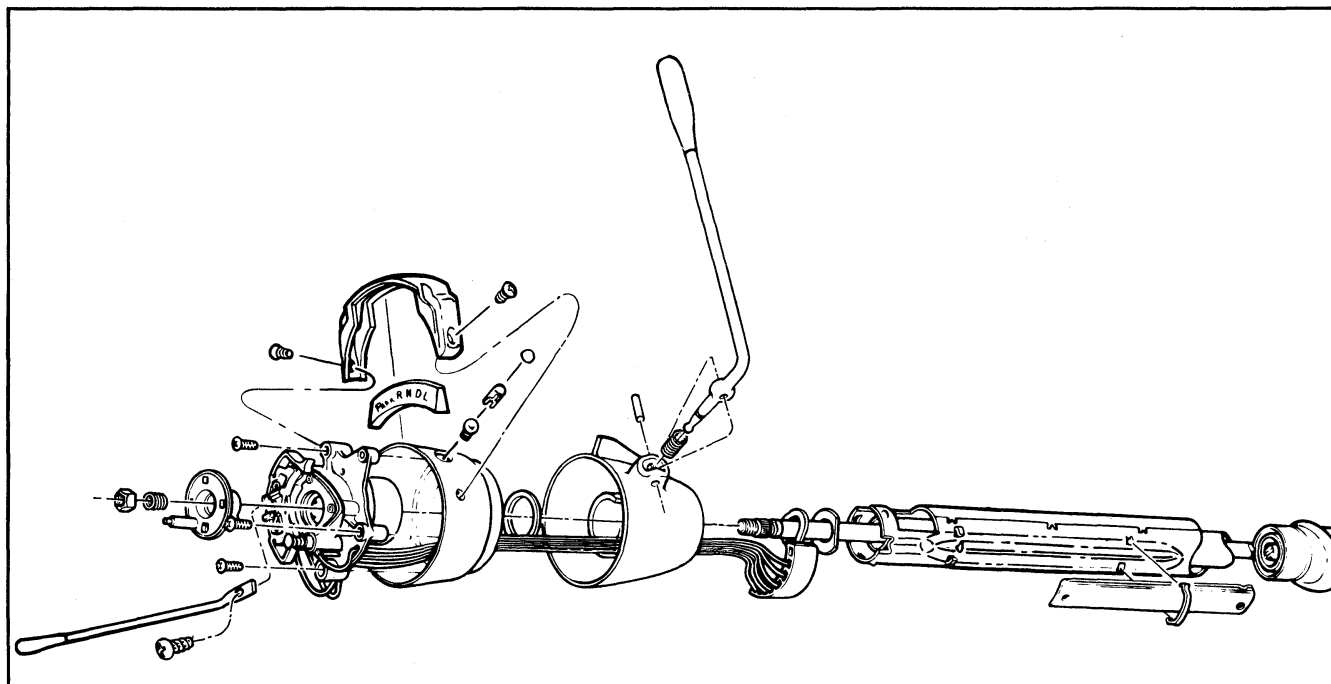

Fig. 11-80 Direction Signal Assembly
3. Rotate directional signal housing on steering column jacket and remove housing from steering jacket (Fig. 11-80).
E. To adjust horns which blow only when tapped, turn adjustment screw one full turn counterclockwise with pliers. See Fig. 11-80 for location of adjusting screws.